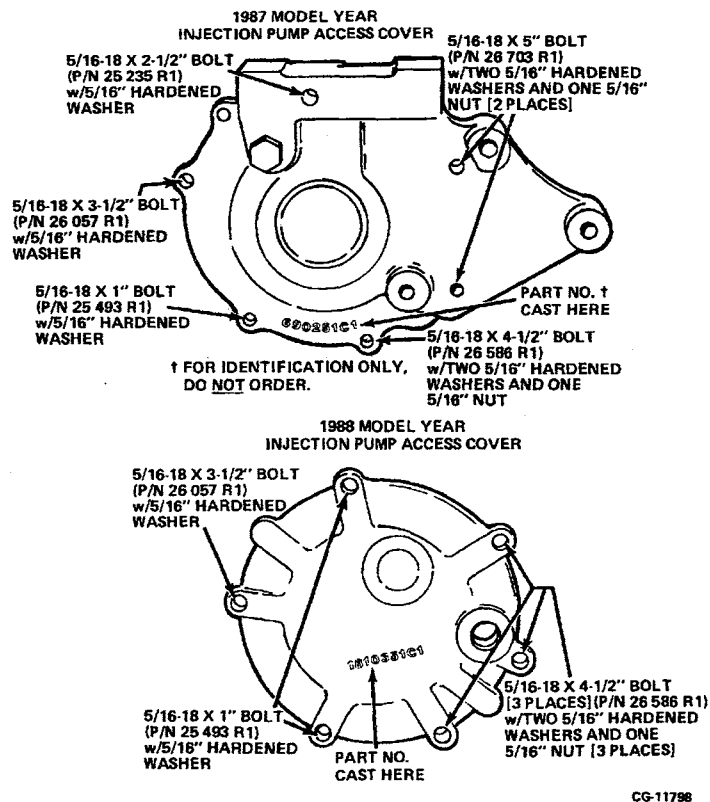

Figure 11.124. Injection Pump Access Cover Mounting Hardware Location
**1987 AND 1988 MODEL YEAR ENGINES USE DIFFERENT INJECTION PUMP ACCESS COVERS AND HARDWARE. REFER TO FIGURE 11.124. FOR MOUNTING HARDWARE LOCATION.**